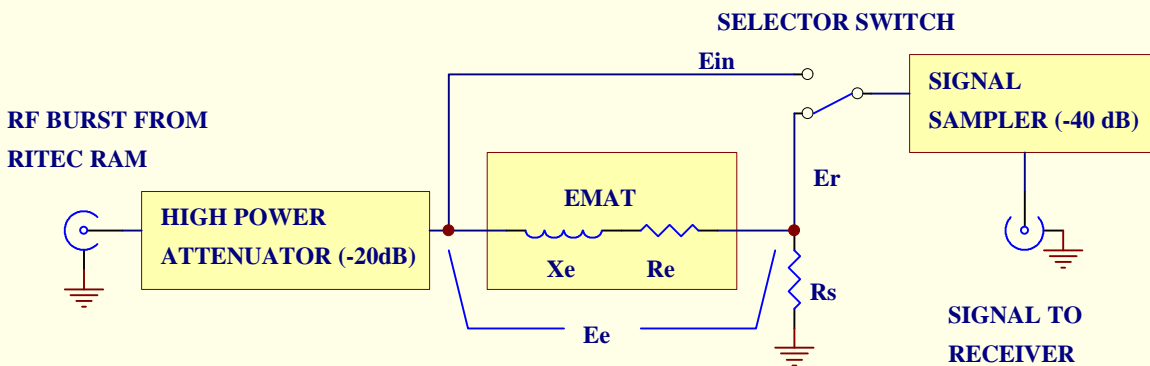

Fig. 1
The measurement circuit is shown in Fig. 1.
- 1) Connect as shown in Fig. 1.